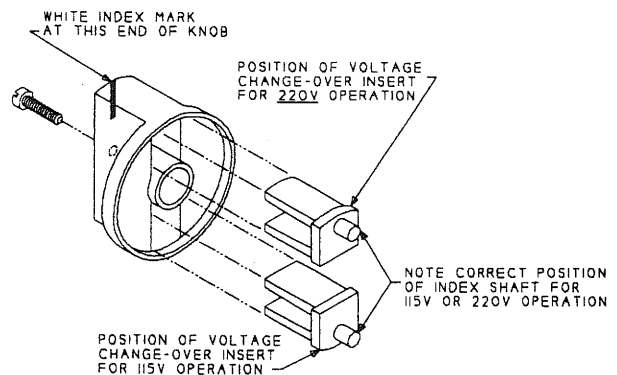

Figure 3, Voltage Change-Over
- C. Locate the voltage change-over insert installed in the bottom of the knob as shown in figure 3.